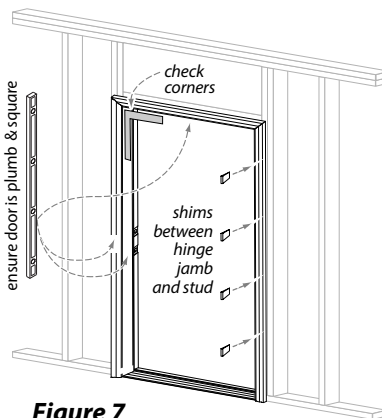

Figure 7
- From the outside, tilt the entire door frame into the center of the opening. With wood shim behind the predrilled hole in the hinge jamb, install middle screw on hinge side though the jamb into the stud (figure 7). Repeat other hinge-side screws, maintaining level in both vertical and front to back planes (plumb). Note if walls are not vertical, exterior brickmold trim may not touch in all areas. **Do NOT attempt to flush trim against exterior wall as this could result in poor door performance.**